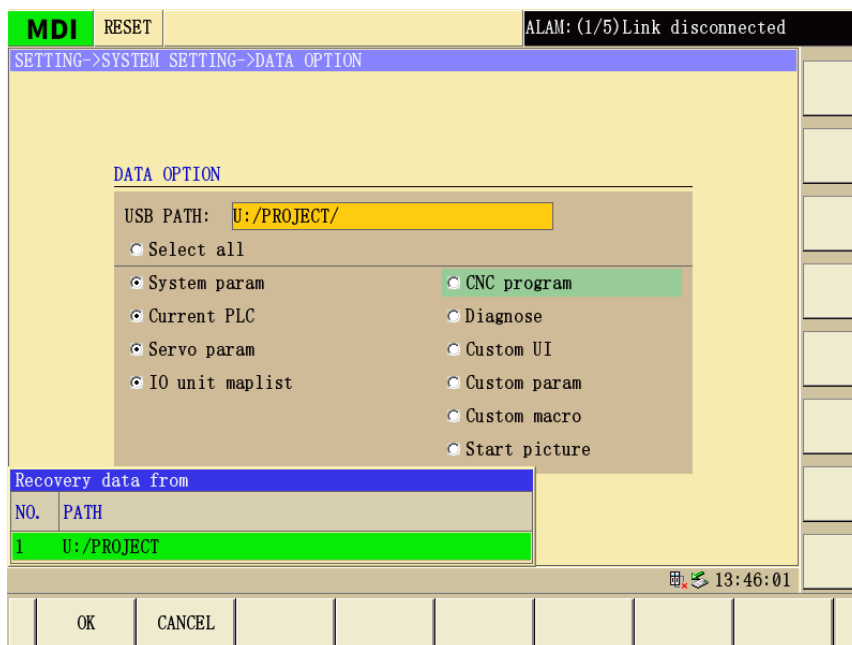

Fig. 1-91
- (1) Navigate to the "  ->  ->  " page of the system.
- (2) With Level 2 permissions, insert the USB flash drive, and check the items to be imported (such as  on the Data Operation page.
- (3) Click  - a dialog box will pop up as shown below. Select the file recovery path (e.g., "U:/PROJECT") as illustrated in Figure 1-91, indicating that files need to be restored from the "U:/PROJECT" directory.